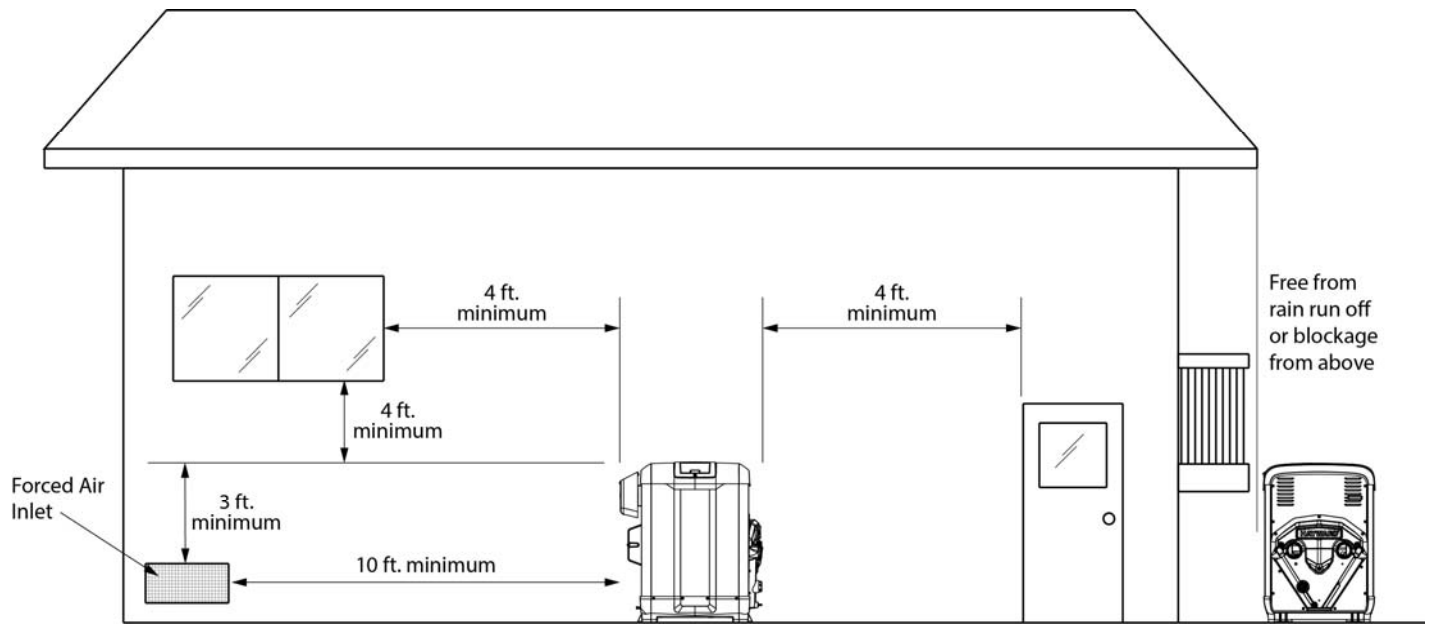

Figure 4: Outdoor Minimum Clearances
12. For minimum exhaust vent clearances for all building openings, including, but not limited to, vented eaves, doors, windows, or gravity inlets, see Figure 4. **In Canada, the heater must be installed with the top of the vent at least 10 feet (3m) below, or to either side of, any opening into a building.**
OUTDOOR AND INDOOR INSTALLATION AND SERVICE CLEARANCES: For both outdoors and indoors installations, the installation clearances from combustible materials and service clearances shown in Table 3 and Figure 4 must be maintained. Do not install heater in a closet or enclosed space (consult NFGC)